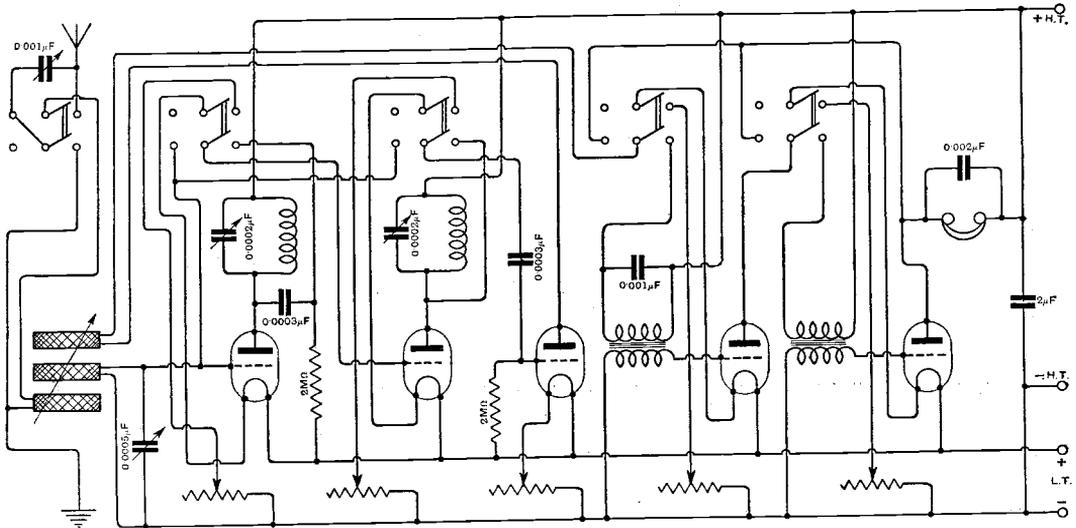

Fig. 3. "H.N." (Northwich). A five-valve receiver with switches.
(1) The diagram is not correct. (2) The diagram is re-drawn correct with the required additions, in Fig. 3.